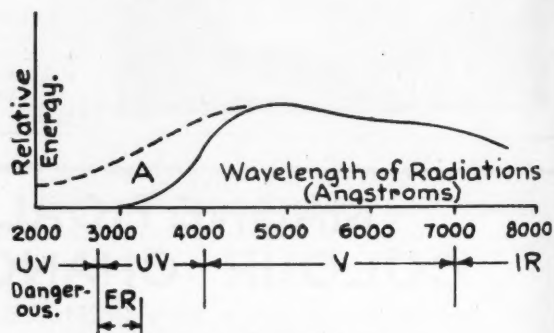

FIG. 15.—Radiation from Sun.
In Fig. 15 the distribution of energy in the spectrum of light from the sun, as it reaches the earth, is presented. If we distinguish five bands: (1) short ultra-violet rays, 2,900 Å. to 3,130 Å.; (2) middle ultra-violet rays, 3,130 Å. to 4,000 Å.; (3) the visible spectrum, 4,000 Å. to 7,000 Å.; (4) short-wave infra-red rays, 7,000 Å. to 14,000 Å.; and (5) long-wavelength infra-red rays, 14,000 Å. to 25,000 Å., we find that the energy reaching us is distributed in the proportions 0.04 per cent., 3.96 per cent., 40 per cent., 39 per cent. and 17 per cent. in these five regions.
This lamp is deservedly called the "sun-lamp." Fig. 16 shows how the energy curve of the sun as shown in Fig. 15 can be realized. The glass bulb acts, as the earth's atmosphere, in eliminating dangerous ultra-violet radiation. The erythema radiation is, however, increased relative to the visible light so that ultra-violet energy intensities such as occur in natural light can be obtained with light intensities suitable for reading; while with low light intensities the amount of ultra-violet energy obtained is still appreciable. There is also considerable middle ultra-violet radiation as in sunlight, and the short wavelength visible radiation is substantially increased relative to that from a tungsten-filament lamp, yielding a light which is more blue than normal artificial light and more nearly approaching the white of daylight, and which is most pleasant for reading, etc. Approximately 65 per cent. of the light is from the white-hot tungsten and 35 per cent. from the mercury-arc.